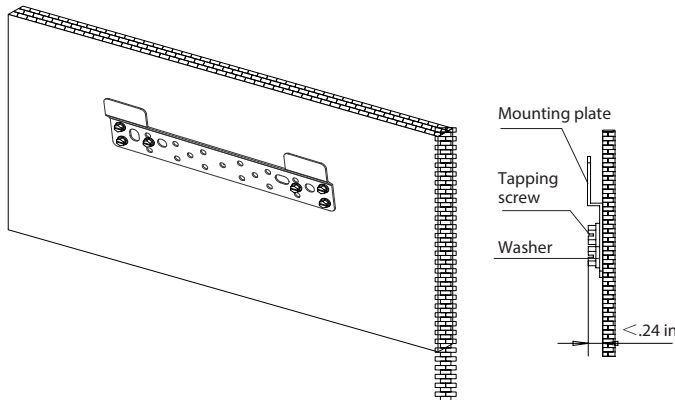

Fig. 9 — Anchor the studs
2. Anchor the hooks at the specified location on the wall using the mounting screws (see Fig. 9). Anchor the hooks on wall studs.